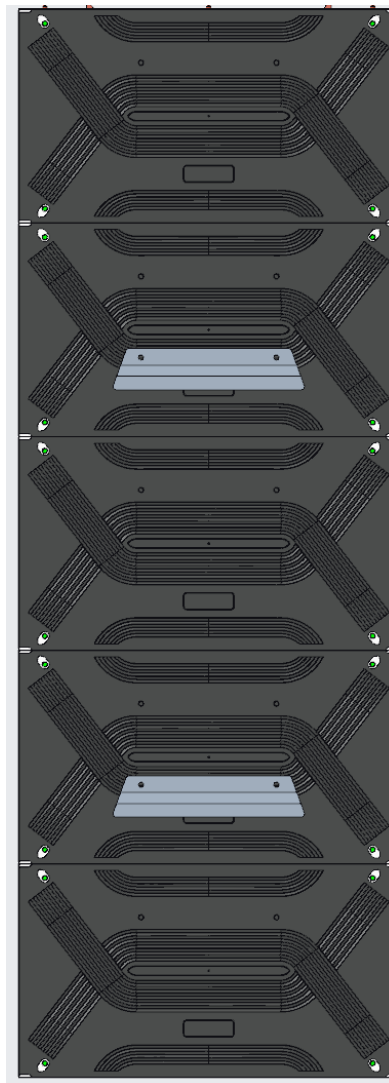

Figure 9
1. The integrated LED display is shipped with the cabinets arranged in a column according to their numbers, with a total of 5 columns arranged for 135 inches; (see Figure 9).